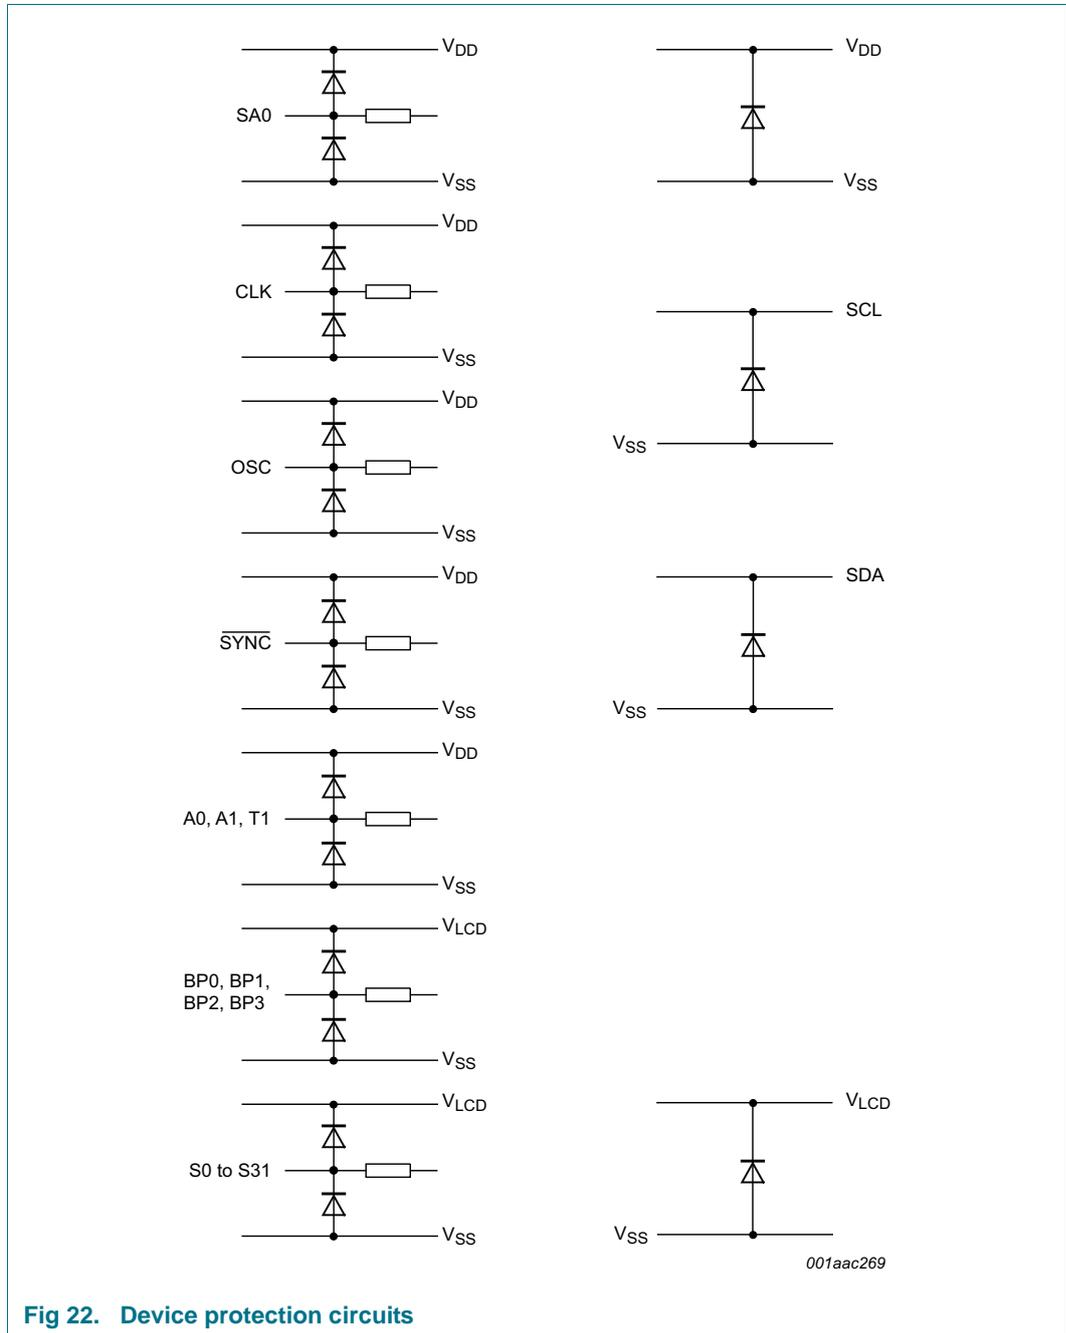

Fig 22. Device protection circuits
- [5] When tested, I²C pins SCL and SDA have no diode to V_{DD} and may be driven to the V_I limiting values given in Table 18 (see Figure 22 as well).